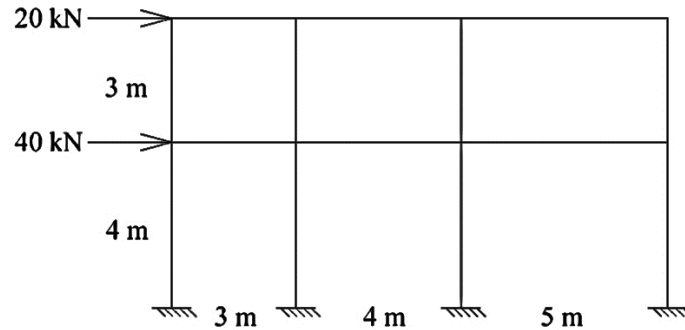

Fig. 1.1
1. Analyse the frame shown in Fig. 1.1 using portal method.